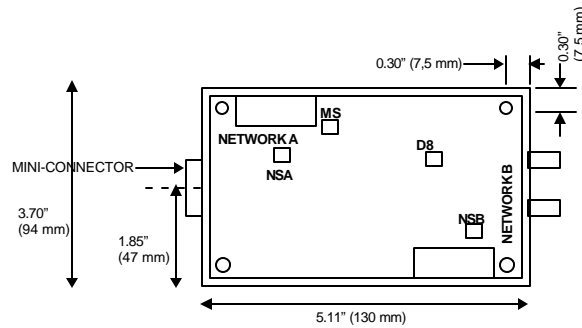

Figure 4-1 WRC-CANR-DF-DN CAN-Bus Extender
A WRC-CANR-DF-DN Multiplexer has six (6) LEDs that provide visual status information to the user about the product and the DeviceNet network. See Figure 4-1, Table 4-1, Table 4-2 and Table 4-3.